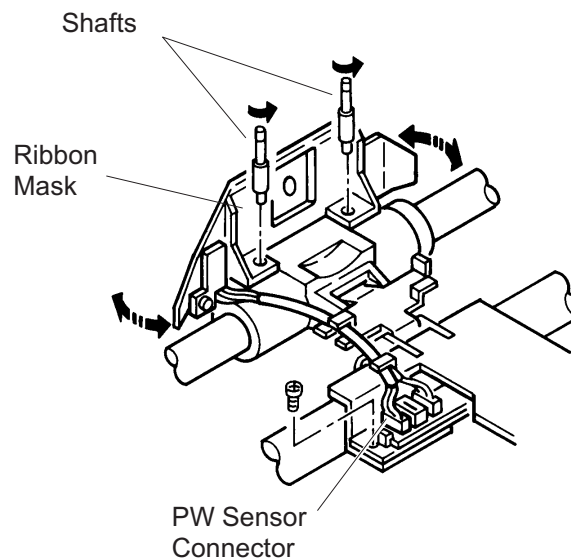

Figure 3-13. Ribbon Mask Removal
Step 10: Replace the ribbon mask with a new one. Set the cable of the paper width sensor as shown in Figure 3-13. After installation, check that the ribbon mask is a little loose.